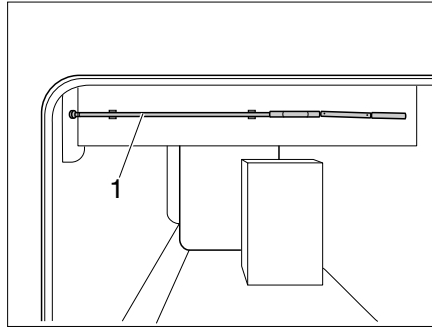

Fig. 149 Crank for height adjustment
- Remove the crank (Fig. 149,1) from the holder.